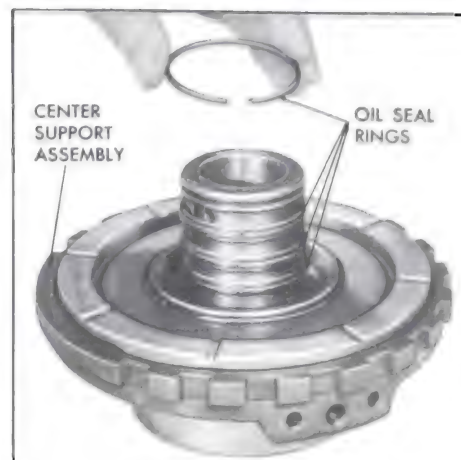

Figure 5-646
1. Remove four (4) hook type oil seal rings from center support. See Figure 5-646.